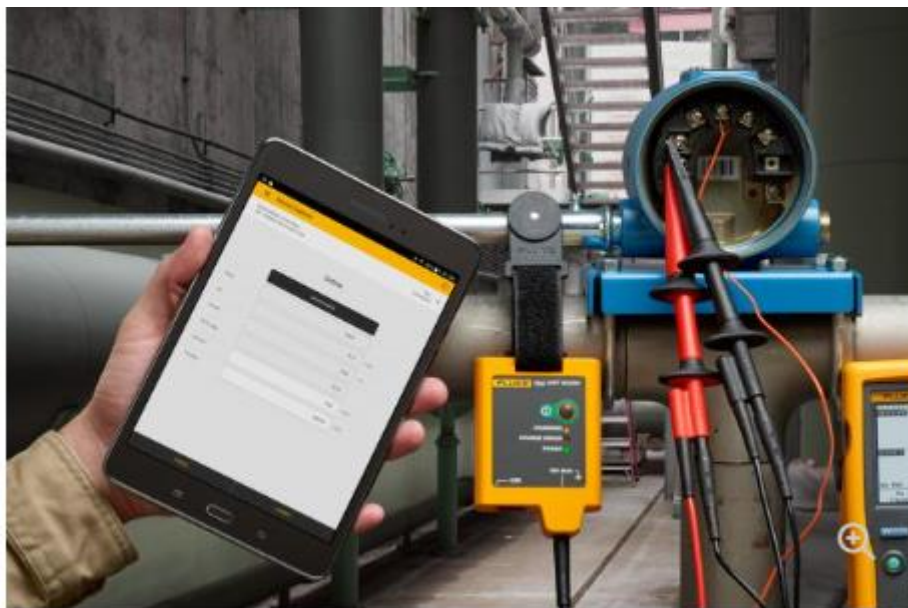

Figure 10 - Fluke HART Communicator (Fluke, 2025)
- Hardware devices known as HART communicators also allow for access to a field device's data via a parallel connection on the device's loop wires, be it at the device itself or at a junction box. This can be used in lieu of a PLC and is useful when the field device is in a difficult to reach area, so a connection can be made at the junction box rather than trying to get access to the device to configure it. An image, taken from the Fluke website, is shown below of a Fluke HART Communicator (figure 10).